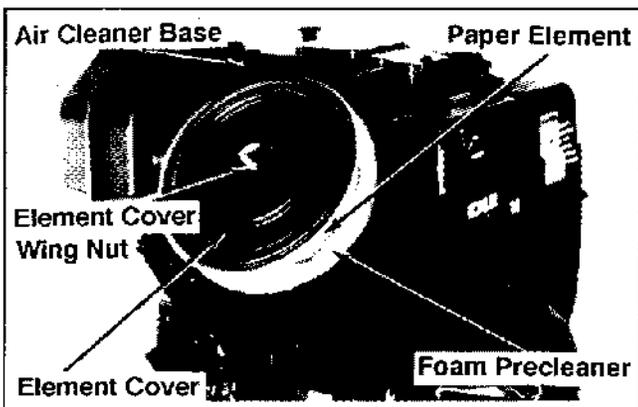

Figure 11-48. Installing Air Cleaner Elements.
3. Install the element and precleaner, element cover, washer, and wing nut. See figure 11-48.